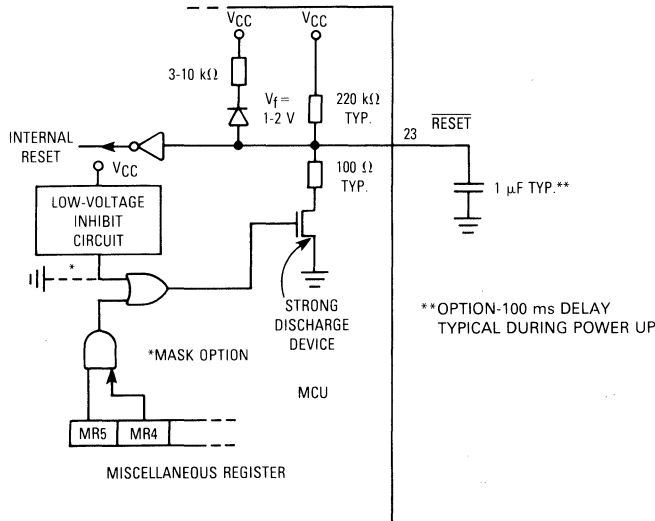

Figure 7. Reset Circuit
The MCU can be reset four ways: (1) by initial power-up; (2) by the external reset input ($\overline{\text{RESET}}$); (3) by a forced reset generated by the "watchdog" counter; and (4) by an optional internal low voltage detect circuit. The $\overline{\text{RESET}}$ input consists mainly of a Schmitt trigger that senses the line logic level. Figure 7 shows the MCU reset circuit.